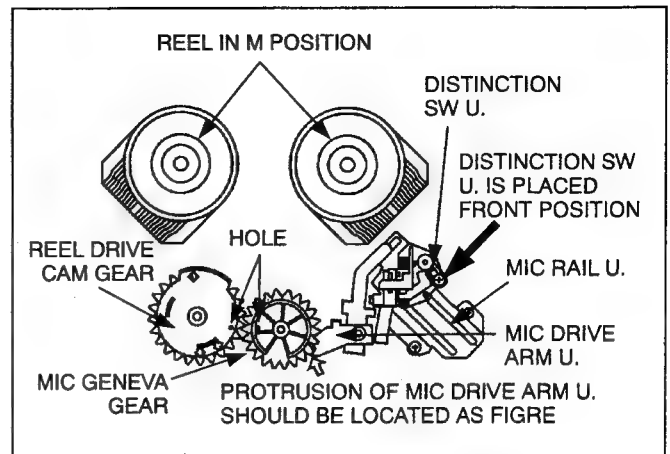

Fig. 6-22-2 Gear Phase Adjustment
4. Place the REC Inhibit SW in front position on Distinction SW Unit by rotation of MIC Geneva Gear, and then MIC Geneva Gear should be positioned as shown in Figure 6-22-2.
Note: Protrusion of MIC DRIVE Arm Unit is positioned as shown in Figure 6-22-2.
5. Install the Reel Drive Cam Gear and hole of Reel Drive Cam Gear should be matched with the hole of MIC Geneva Gear as shown in Figure 6-22-2.
6. Install the Cut Washer (A), (B) and (C) as shown in Figure 6-22-2.
- 3) Portusion of MIC Drive Arm Unit is positioned as shown in Figure 6-22-2.